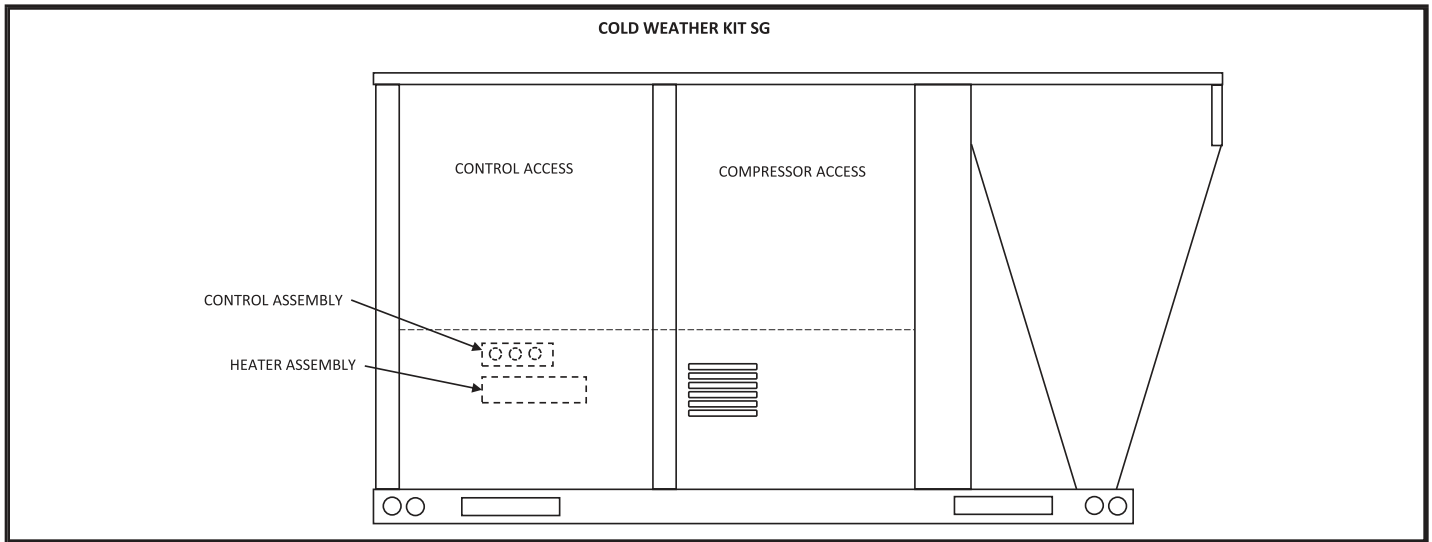

FIGURE 22
- 1 - Disconnect all power to unit and open control access panel, see FIGURE 22.